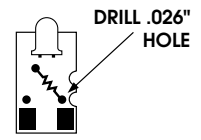

Fig. 2
- Lay rear light board (607-001R1) out in front of you, parts side down. With a sharp hobby knife make a cut in the circuit trace as shown (Fig. 1). Drill .026" diameter hole as shown in Fig. 2. Unsolder resistor at the end away from the LED. Resolder in new hole you just drilled. File two 1/2-round notches in light board as in Fig. 1. Solder the BLACK wires in the hole that the resistor was in per Fig. 3 and RED wire as shown (Fig. 3). Solder WHITE wire to light board as shown (Fig. 3). Unsolder parts from front light board and resolder in line for rear light per Fig. 3.